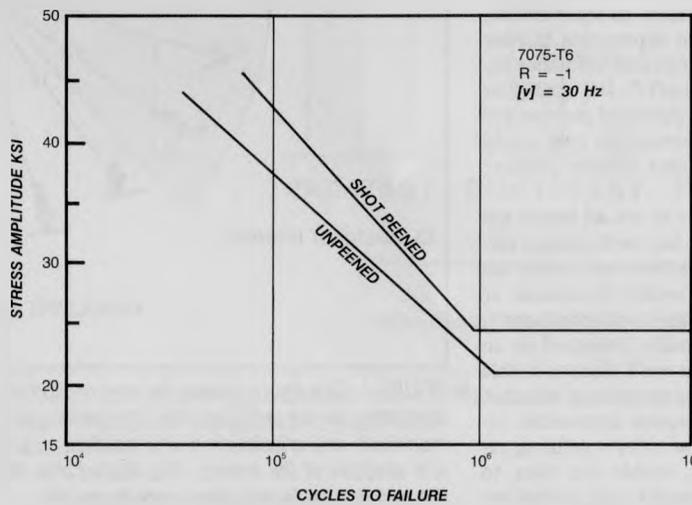

FIGURE 4: Reversed bending fatigue test on unpeened and peened specimens of 7075-T6 aluminum alloy.³
The data presented in FIGURE 4 show this was not the case. The control group showed that they were able to reduce the pedal forces to only a limited extent in the sector of interest. In fact, it would seem that the reduction was not at
■ FIGURE 4: The force vs. crank-angle curves for the control and the experimental groups.